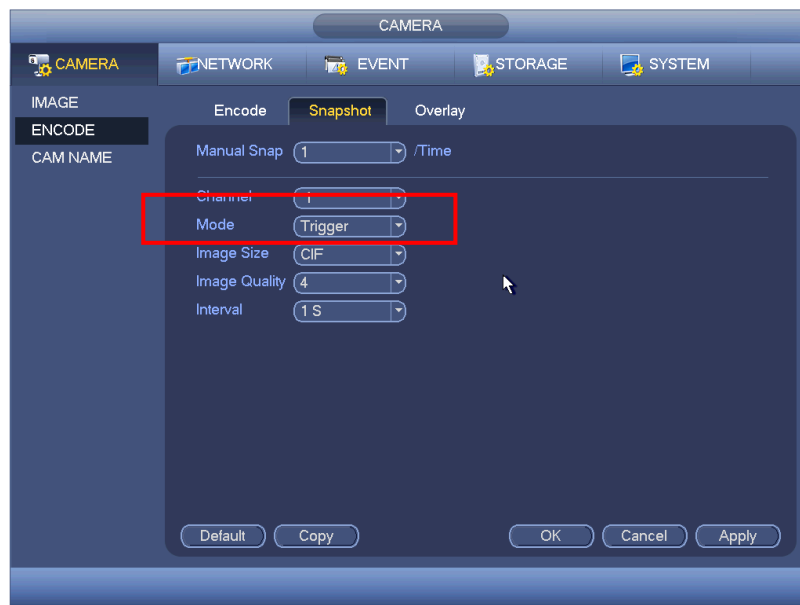

Figure 4-116
- In main menu, from Setting->Camera->Encode->Snapshot interface, here you can input snapshot mode as trigger, size, quality and frequency. See Figure 4-116.